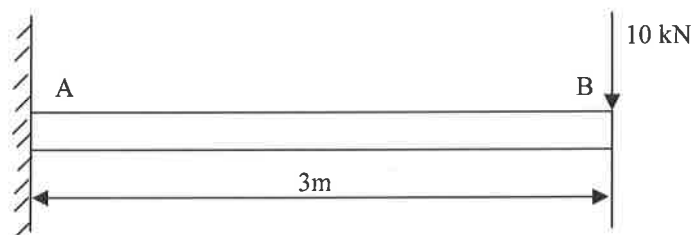

Figure Q.11
11. A 3 m long cantilever AB carries a vertical load of 10 kN at its free end B, as shown in Figure Q.11. The beam has a square cross-section of 75 mm x 75 mm. Determine: